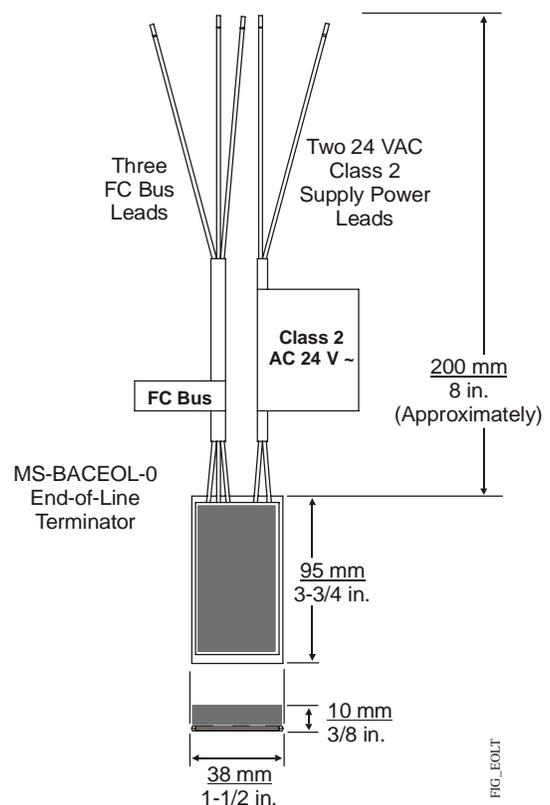

Figure 1: MS-BACEOL-0 RS485 End-of-Line Terminator Dimensions
The MS-BACEOL-0 RS485 End-of-Line (EOL) Terminator (Figure 1) provides EOL termination on Metasys® RS485 protocol Field Controller (FC) and N2 Bus segments when the terminating field device does not have integral EOL termination capability.